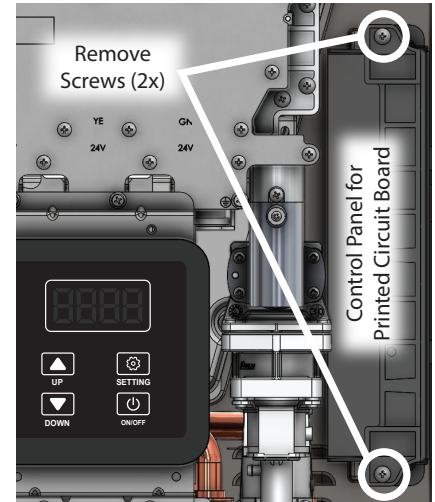

Figure 29 - Control Panel Location
- 4 Remove the two screws (top and bottom) securing the control panel to the Parent water heater. The control panel is located on the bottom right side of the water heater as shown in Figure 29.